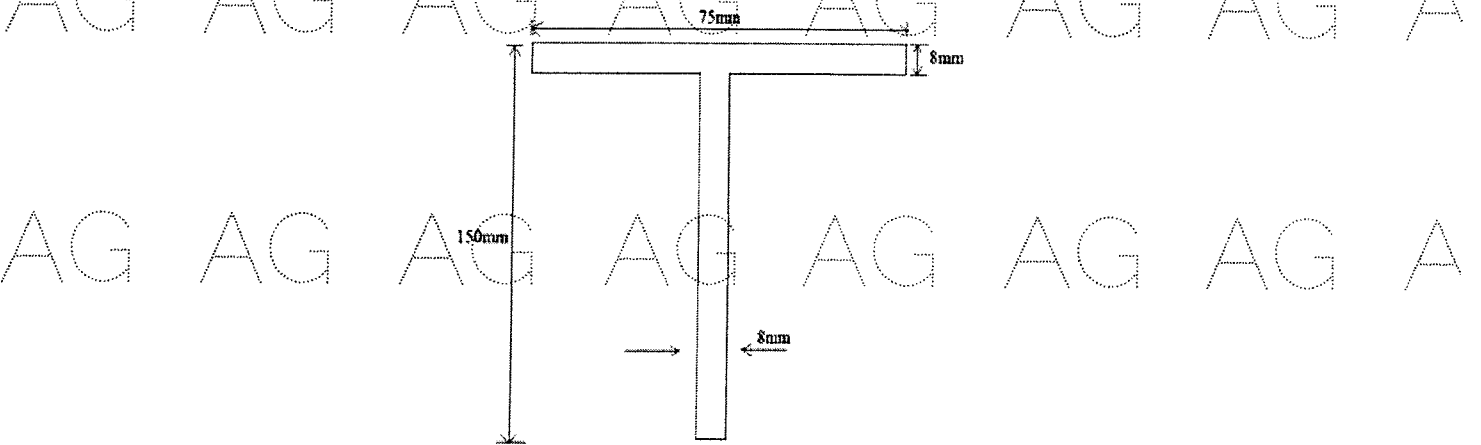

Figure: 3
7. A T-section beam shown in figure 3 is subjected to a shear force of 9kN at a section. Determine the amount of maximum intensity of shear stress and draw the distribution of shear stress across depth of the section. [10]